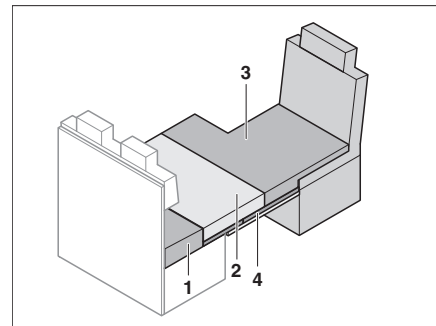

Fig. 186 After conversion
- Lay the additional cushion (Fig. 186,3) on the driver's seat.
- Lay the seat cushion (Fig. 186,2) on the guest bed foundation.
- Lay the back cushion (Fig. 186,1) between the seat cushion and the rear wall. Observe the wedged form.